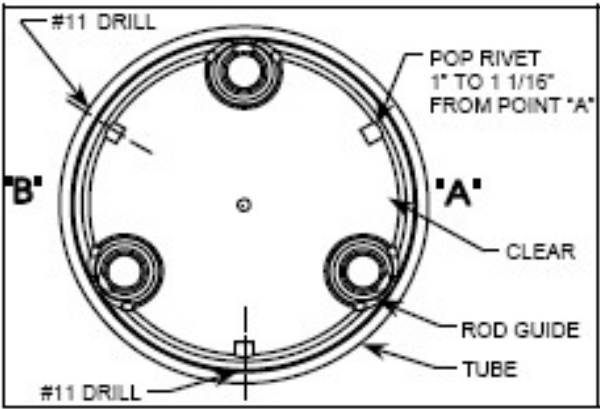

Figure 2
3. Insert the OPW Tank Bottom Protector and line up the # 11 hole in the sliding rod guide with the corresponding hole just drilled in the drop tube. Make sure that point "A" is clear for future measurements of the drop tube's length. (See figure 2).